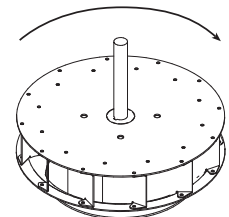

Figure 14
3. All XRUD and XRUB units - Check wheel rotation (viewing from the shaft side) by momentarily energizing the unit. Rotation should correspond to the rotation decal on the unit, see Figure 14. If wheel rotation is incorrect, reverse two of the wiring leads or check motor wiring for single phase.
- Start the fan and shut it off immediately to check rotation of the wheel with directional arrow in the motor compartment, *Reference Figure 14*.